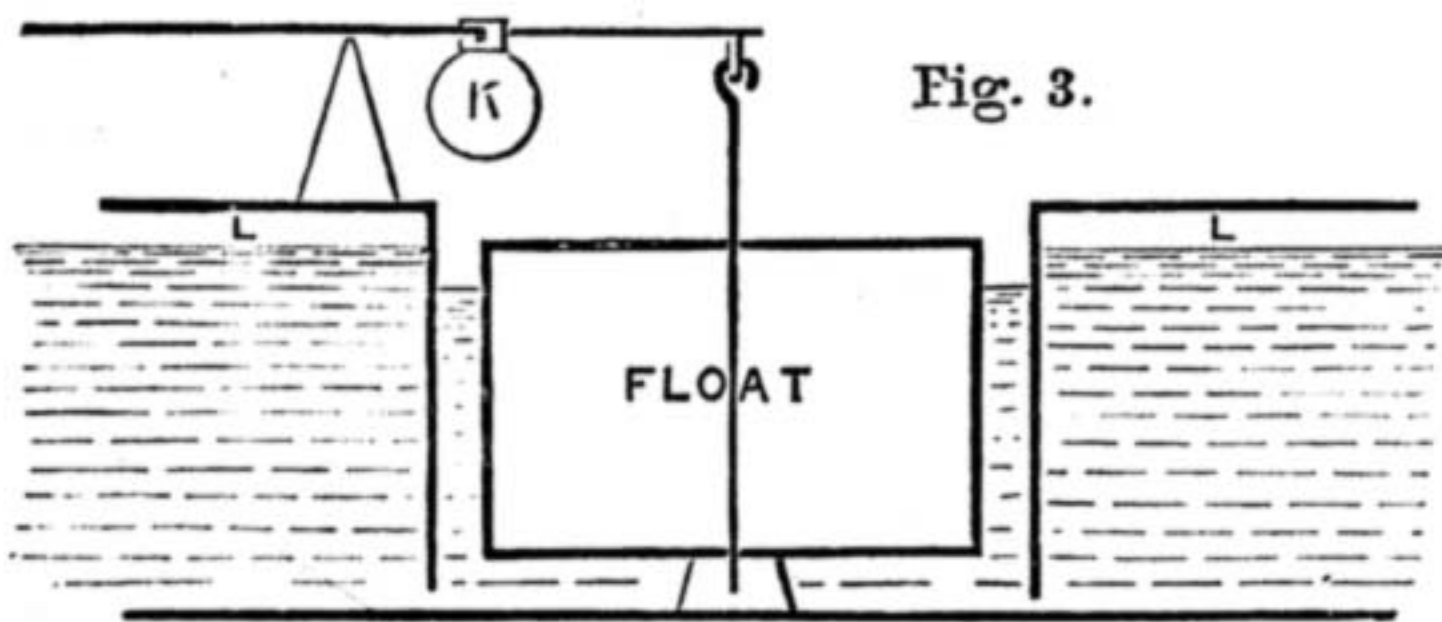
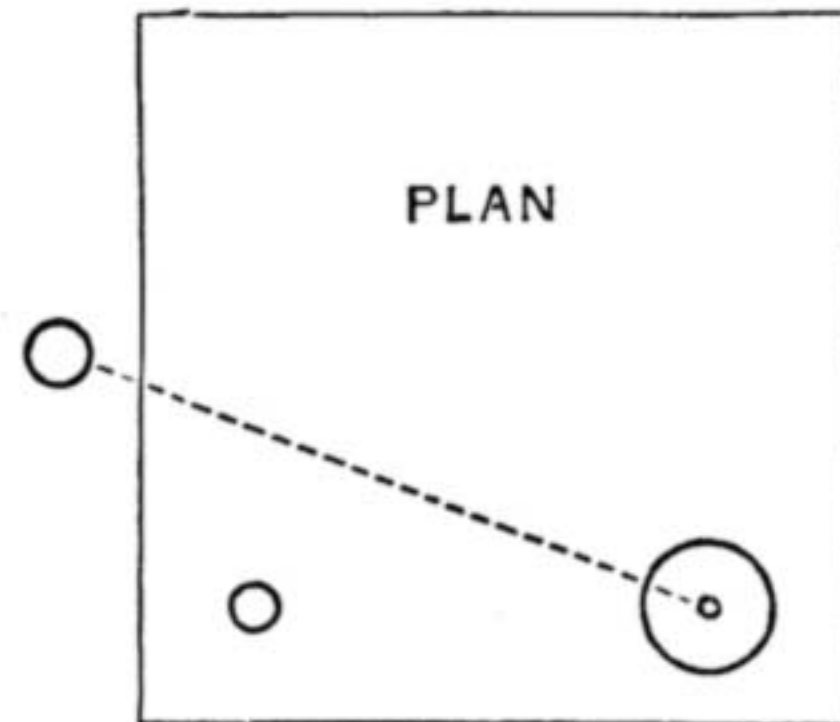

Fig. 3.
Fig. 4.
Fig. 1.—Sectional Diagram of Incubator, showing Arrangement when in use. Fig. 2.—Section of Drawer Runner from Front to Back. Fig. 3.—Diagram showing Metal Float Governor with Wire working in Centred Bridge at Base of Boiler—K, Adjusting Weight; L L, Air Space above Water of Boiler. Fig. 4.—Diagram showing Position of Well-hole.
The woodwork of incubator may now be regarded as being complete; the metal part now remains. I find it a capital plan to cover the inside of case at this point with thick brown paper, using flour-paste. It is a good non-conductor, and ensures that no cracks interfere with the ventilation, taking care, of course, to leave the holes free. We now require to make the boiler. This should be made of strong tin-plate or copper (zinc is altogether unsuitable), the dimensions being 15 in. by 15 in. by  $3\frac{1}{2}$  in. deep, the tube A to be soldered in 1 in. from the bottom; this should be of  $1\frac{1}{2}$  in. brass, and in fixing it additional strength in the joint will be obtained if the holes are bored in the sides of the boiler about a  $\frac{1}{8}$  in. too small, and then "rhymered" with a blunt tool to their proper size, this turning up a  $\frac{1}{8}$  in. edge round the hole. The boiler tube should be nearly flush with boiler at one end, and project about 2 in. at the other; a filling tube 1 in. in diameter (B), and reaching to nearly the bottom, to be fitted in the position shown (Fig. 3), and provided with a screw-cap. The boiler must also have a circular hole (Fig. 4)  $3\frac{1}{2}$  in. in diameter, and fitted with a circular well-piece reaching to about  $\frac{1}{16}$  in. from the bottom of boiler, and soldered air and water-tight to the top; this is for the regulator, described further on.